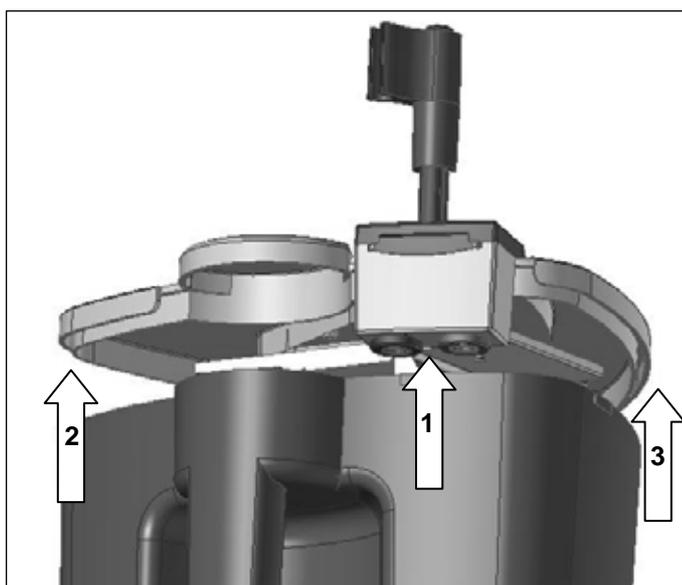

Figure 25
- Separate the body of the apparatus and the heat reservoir tub (*figure 25*).